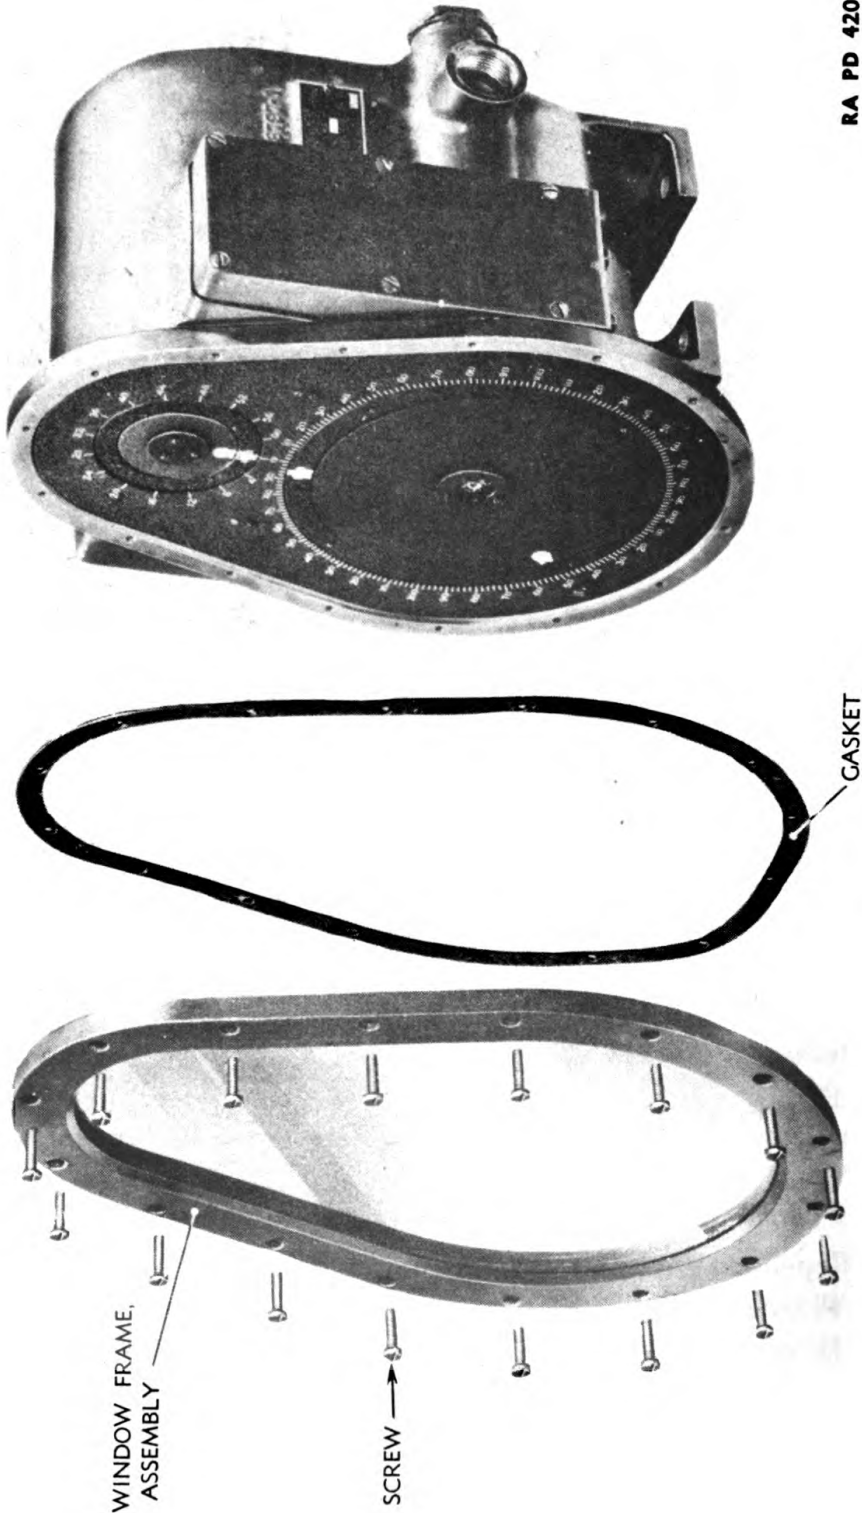

Figure 63 — Removal of Window Frame Assembly
a. Window Frame Assembly (figs. 63 and 64).
(1) Remove 16 screws which secure the window frame to the case, and pry the window frame free from the case. Be careful not to damage the gasket.
(2) If necessary to replace the window, remove 16 flat-head screws which secure window retainer to window frame. Remove the window retainer and press window out of frame. Place new window in position and seal edges with sealing compound. Reassemble window retainer.